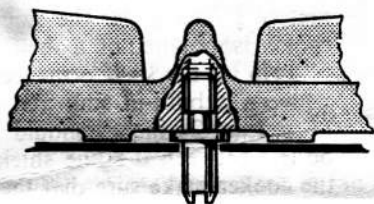

Fig. 3
- (2) If the cooker is fixed on a permanent site, the pan supports can be fitted as shown in (Fig. 3), and with this method they are easily removed for cleaning.